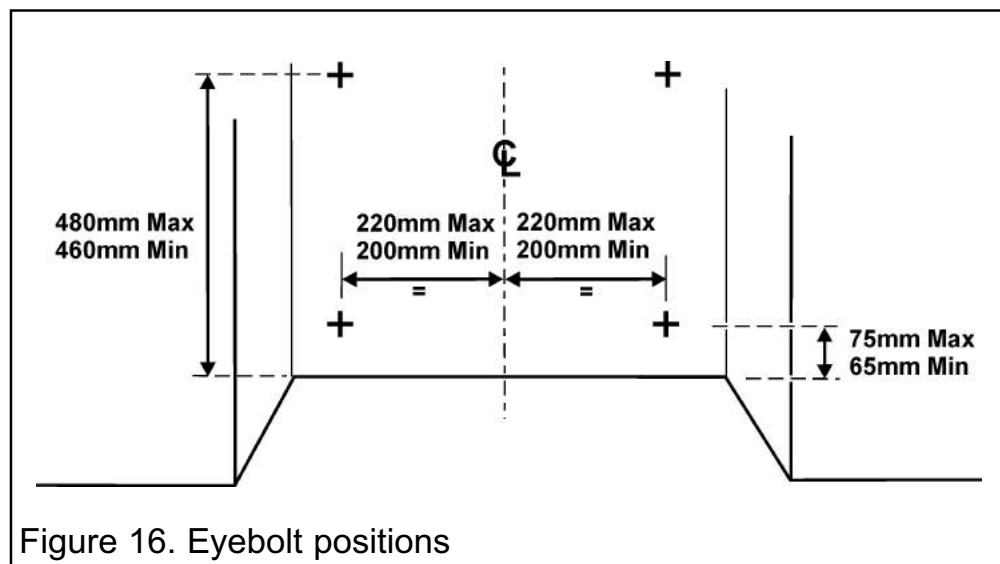

Figure 16. Eyebolt positions
2. Drill four holes in the rear wall of the fireplace for the fibre / wooden plugs. The holes should be drilled within the range of positions shown in figure 16 using a suitably sized masonry drill for the fibre / wooden plugs supplied. The holes should be equidistant each side of the centre line of the fireplace to ensure that the appliance finishes centrally in the opening when tension is applied to the cables.